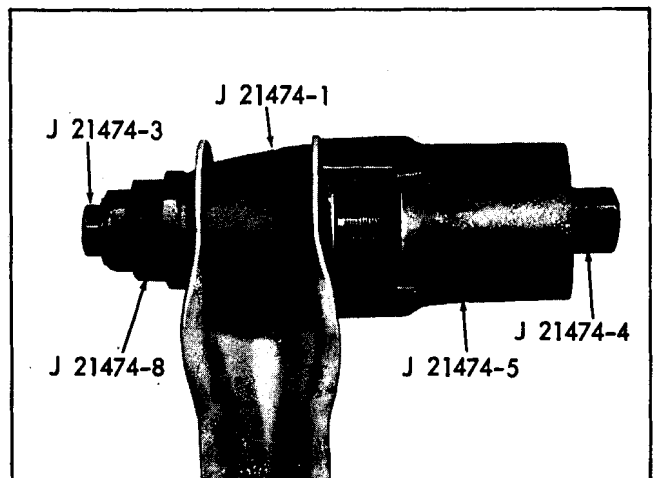

Fig. 4-7 Removing Upper or Lower Control Arm Bushing-Except Firebird
2. Arrange tools as shown in Fig. 4-7 and press bushing from control arm.
2. Remove bushing, using components of tool J 21474 as shown in Fig. 4-7.